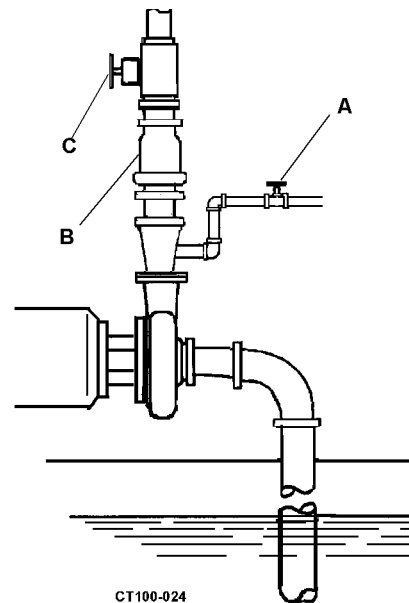

Figure 2 - Pump Above Supply
1. Close discharge valve (Figure 2, item C) and open air vents.
2. Open the valve installed in the outside supply line (Figure 2, item A) until liquid flows from vent valves.
NOTE: Use a check valve system (Figure 2, item B) to keep supply line and pump casing flooded with liquid. Otherwise the pump must be primed before each operation.